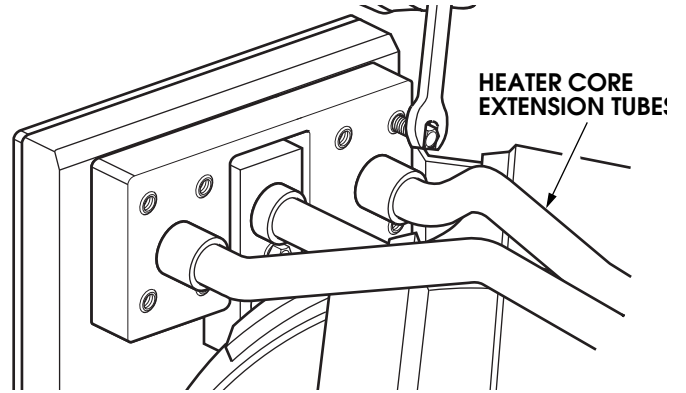

Figure 11-92: Heater Core Tube Removal
4. Remove 4 bolts securing heater tube mounts to passthrough plate (Figure 11-92).